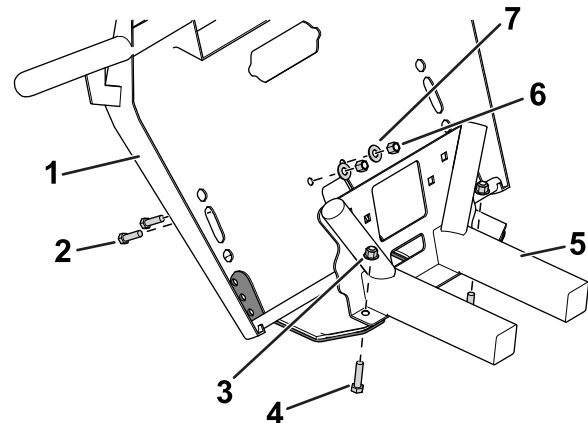

Figure 1
5. Use 2 bolts (M10), 2 flange nuts (M10), 2 hex-head bolts (3/8 inch), 2 washers, and 2 nuts (3/8 inch) to loosely secure the skid plate to the bumper (Figure 1).